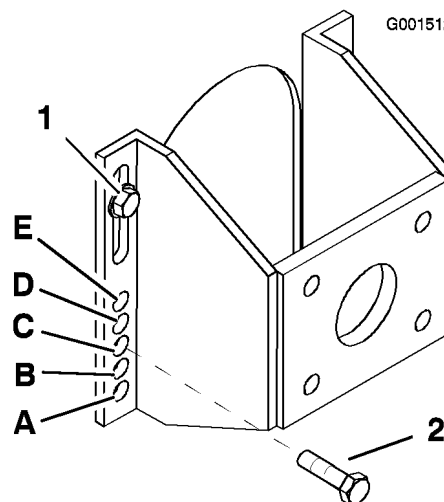

Figure 19
5. Loosen, but do not remove, the 2 top axle bolts (Figure 19).
6. Remove the 2 lower axle bolts (Figure 19).
7. Raise or lower the mounting bracket, so that you can install the 2 axle adjustment bolts in the desired hole location (Figure 19). A tapered punch can be used to help align the holes.